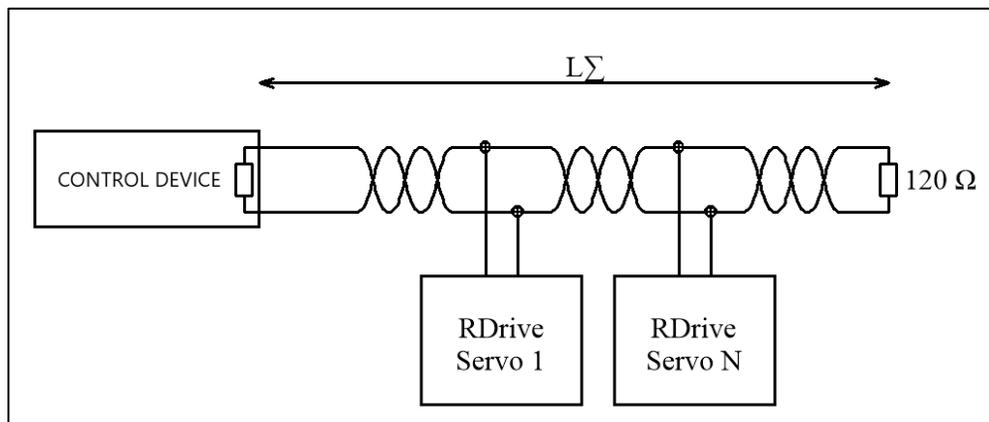

Figure 4-1: CAN connection to control servos based on CANOpen
- In case servo control is based on the CANOpen protocol stack, provide a CAN bus connection of the configuration as shown in **Figure 4-1**.
The connection is in accordance with the diagram as shown in **Figure 4-1**. Connect the CAN cables on the RDrive input flange to the corresponding twisted pair wires: the brown one to CAN_{HIGH}, and the blue one — to CAN_{LOW}.
To enable control based on CANOpen, connect RDrive servo motors in accordance with **Figure 4-1**. For a detailed description of the CANOpen communication interface implemented for RDrive servos and related application cases (including servo initialization), refer to “CANOpen Communication Guide.”